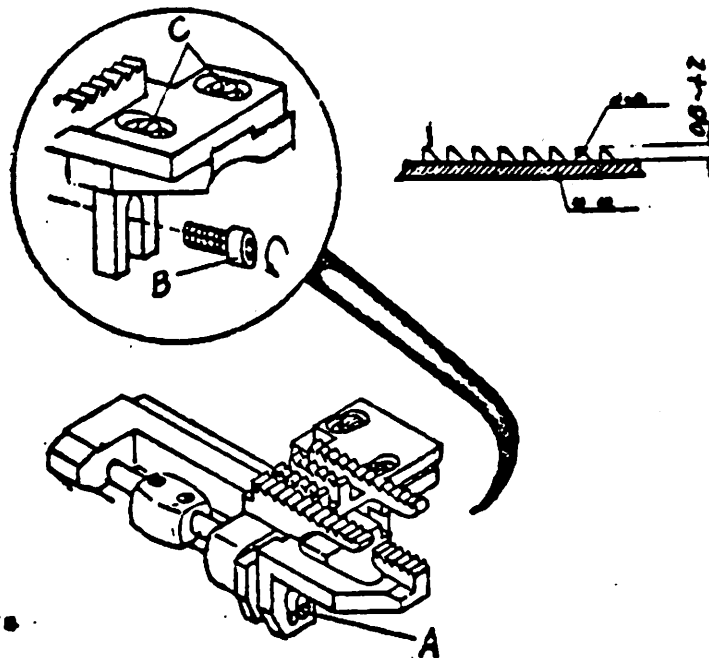

Fig 15
At the time when the feed dog is at its upper end position, the clearance from the needle plate to the top of the feed dog is necessary for 0.8mm-1.2mm as indicated in Fig. 15.
1. Loosen the front feed dog screw A in Fig. 15.
2. Loosen the rear feed dog screw B in Fig. 15.